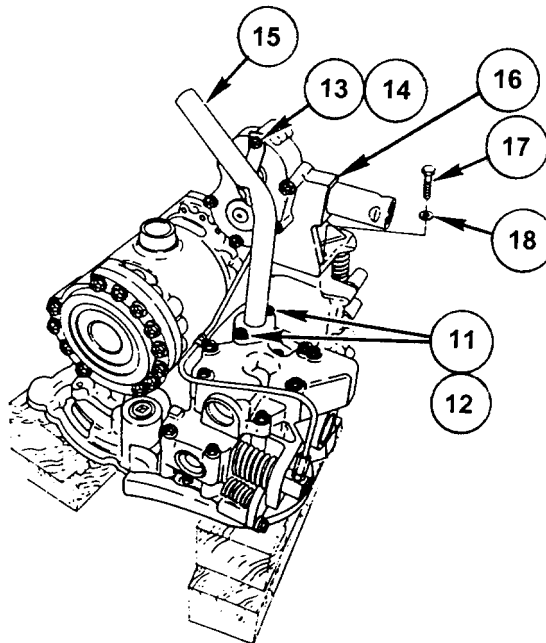

Figure 3. Bevel Gear Assembly.
11. Position Bevel Gear Assembly on wooden blocks (WP 0024, Item 3) as shown in Figure 3.
12. Remove two bolts (11) and two washers (12) and one bolt (13) and one washer (14) that retain Scavenge Tube Assembly (15). Remove the Scavenge Tube Assembly (15).